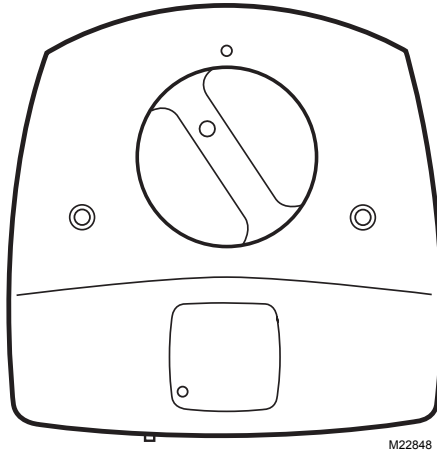

Fig. 8. Position bulb for insertion back into the lamp base.
7. Insert the bulb into the base with the lamp light indicator at the eleven o'clock position. Continue pushing and gently rotating counterclockwise until the lamp handle inserts fully into the base. See Fig. 8.